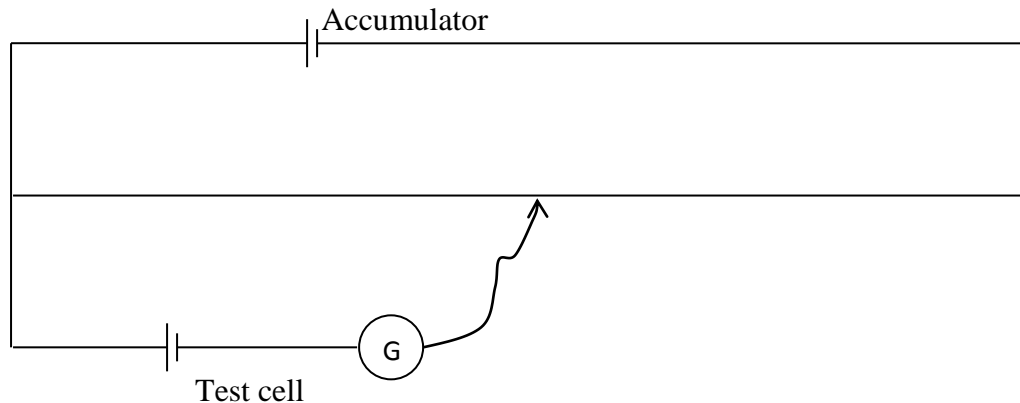

Fig. 29
1. The circuit is connected up as shown in Fig. 29, with the standard cell in place. Be sure that the positive poles of both the accumulator and the standard cell are both connected to A.